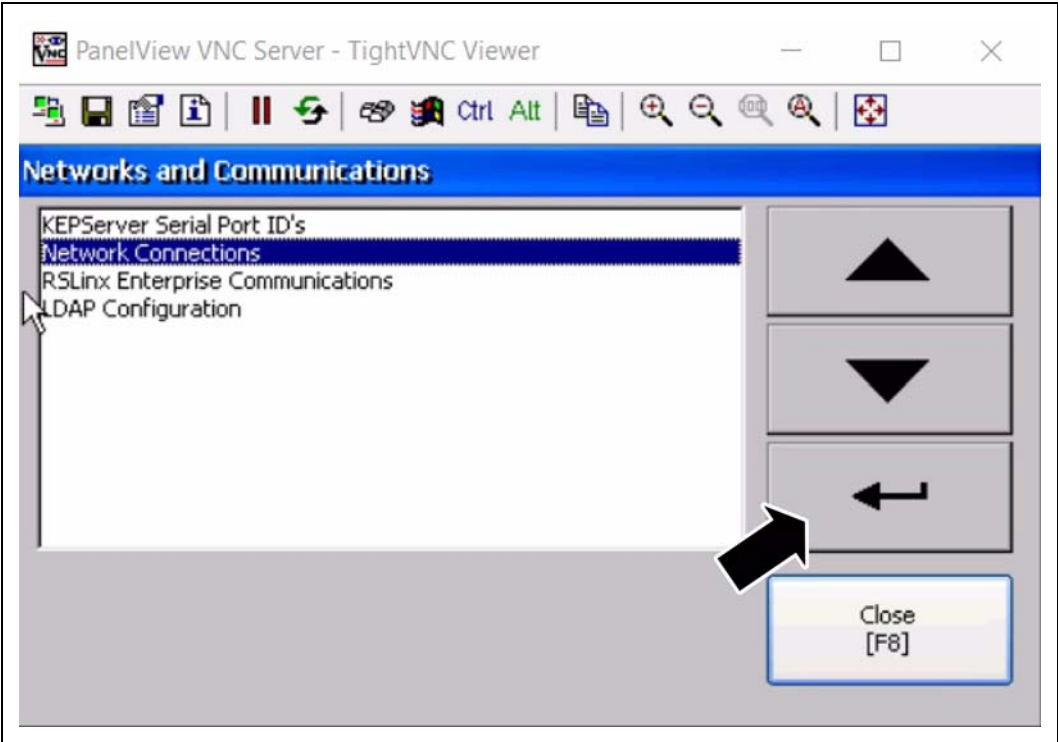

Figure 4C
3. Select Network Connections and press Enter. (See Figure 4C.)